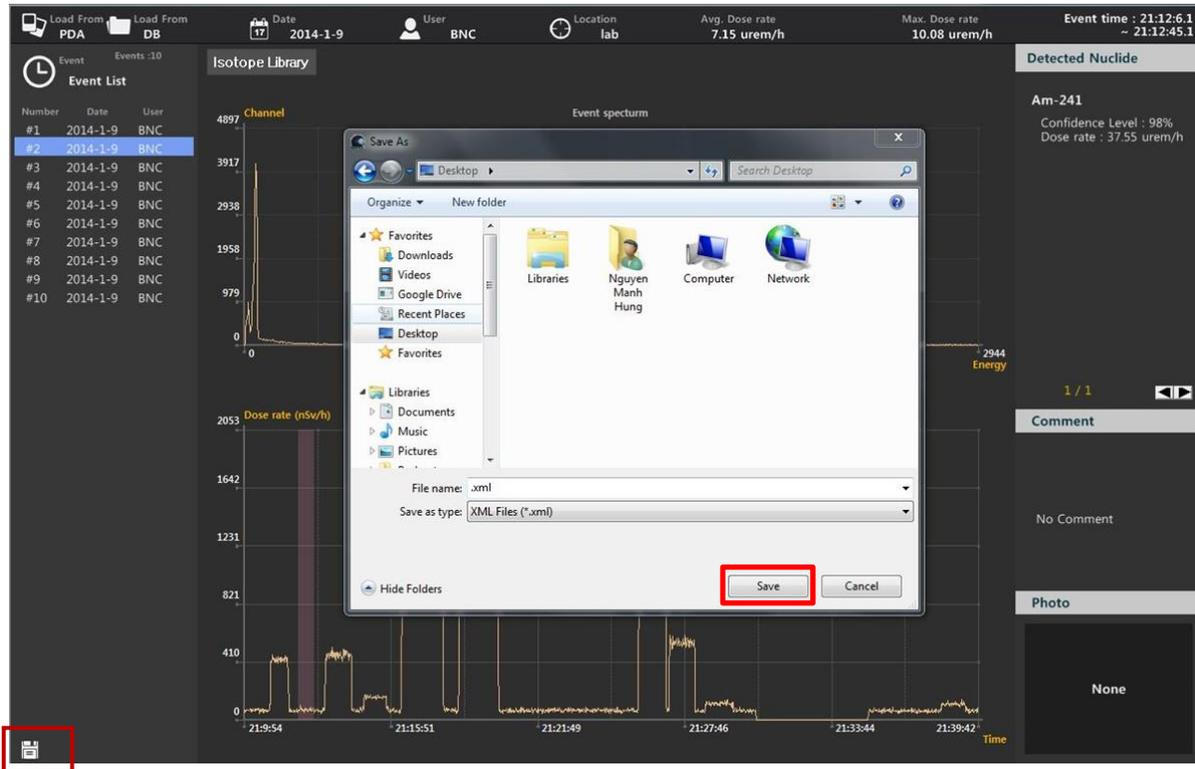

Figure 6.6. Save as XML file format example
1. Select the event from the event list and click the disk icon () in the lower left corner of the screen. The destination directory screen will appear (figure 6.6 below).